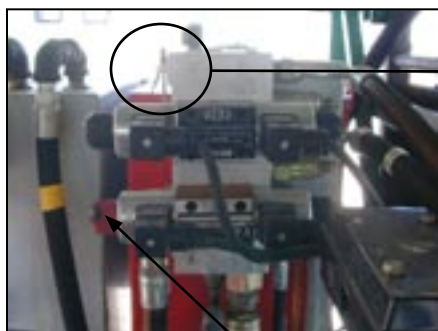

Fig. 92
- 1- Using the emergency descent tool (fig. 92, inset), push in and hold in the depression on the end of the red valve (fig. 93) until the motorized unit has safely reached ground level, for an emergency descent, or until the platform is back on level, in case of a level reading alarm on the control panel.